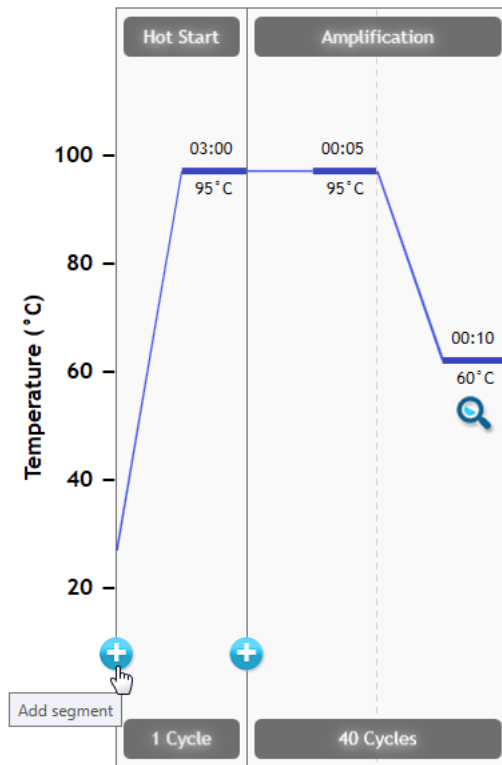

Figure 5 Adding a new segment on the Aria Thermal Profile screen
- a On the display, hover the cursor over the Hot Start segment. Click the + icon (as shown in **Figure 5**) that appears on the left side of the Hot Start segment.